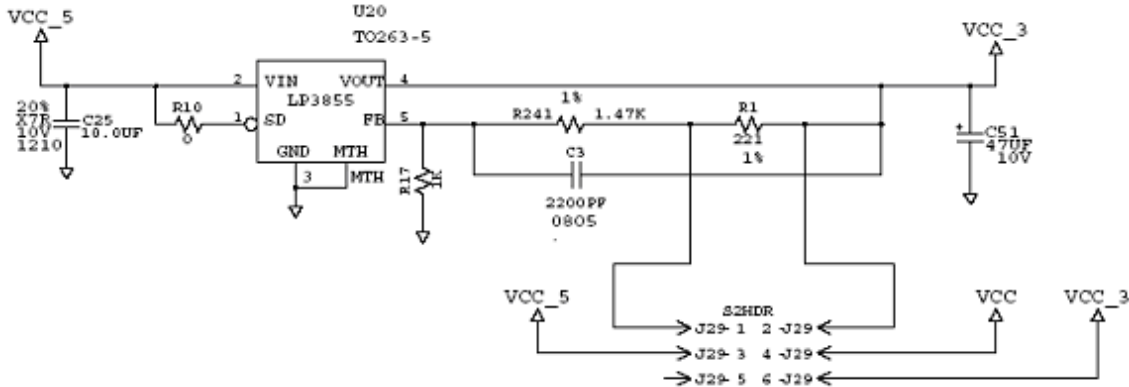
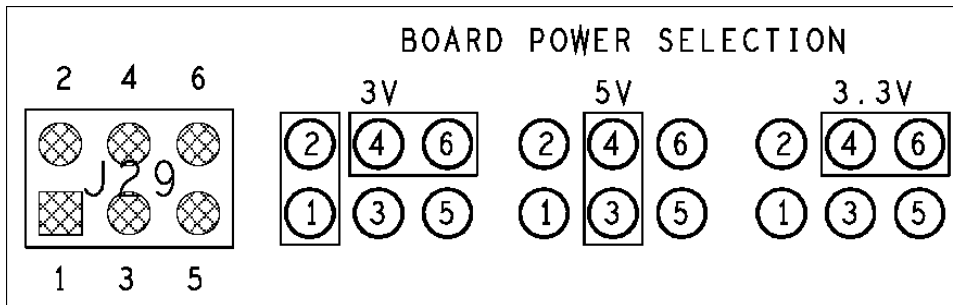

Figure 2-1 Electrical Schematic
Figure 2-2 Jumper Configurations for Power
Block one (1) represents board power configuration and selection. Since the UDK board supports many decoded engines, configure the power supplied to the engine to the voltage specified in Table 1, which is silk-screened on the PCB. To set engine power, populate jumpers on J29 according to the figures silk-screened on the PCB in the section labeled *Board Power Selection*. The electrical schematic and jumper configurations are shown in Figure 2-1 and Figure 2-2. For the selected voltage, attach a jumper to J29 where a rectangle is drawn.